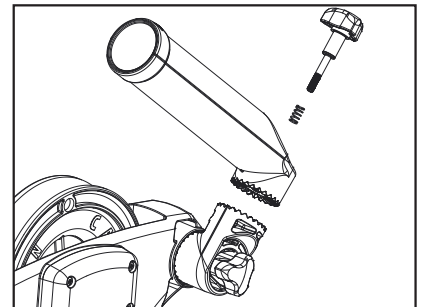

Figure 8
2. Fasten rod holder to rod holder elbow using supplied spring and knob. (Figure 8)